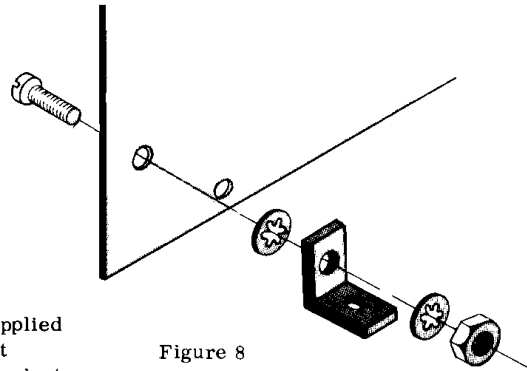

Figure 8
- ( ) Fasten the two "L" brackets to the front panel using one 4-40 X 1/4" machine screw, two lock washers and a 4-40 nut as shown in figure 8. Note that the unthreaded hole on the "L" bracket is used in this operation. **DO NOT COMPLETELY TIGHTEN THESE SCREWS AT THIS TIME.**